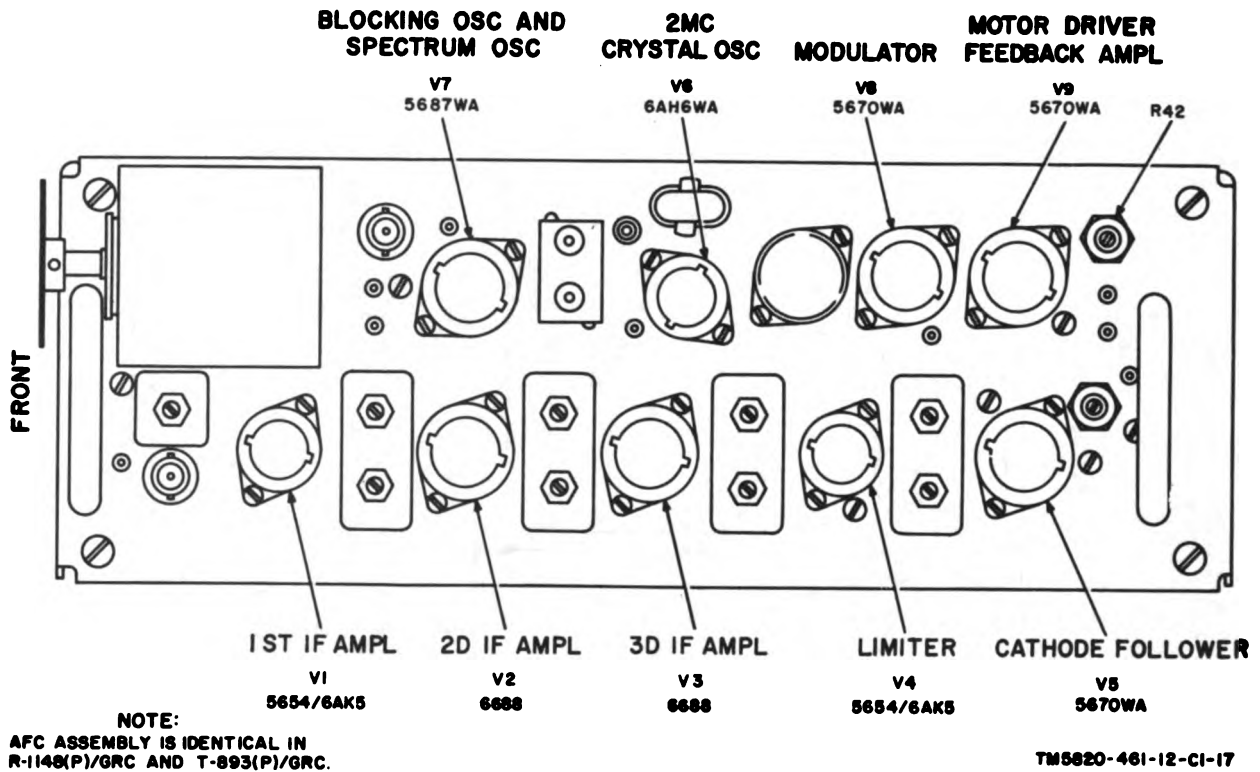

Figure 5-5. Afo assembly 2A4/3A4 (part of T-893(P)/GRC and R-1148(P)/GRC), tube locations.
d. R-1148(P)/GRC or R-1331()/GRC.* Loosen the screws that attach the R-1148(P)/GRC or R-1331(*)/GRC to the component case, and remove the component from the case. Loosen the screws that attach the access cover to the rear of the R-1148(P)/GRC or R-1331(*)/GRC, and remove the cover. The plug-in assembly locations in R-1148(P)/GRC or R-1331(*)/GRC are shown in figure 6-6. The location of tubes on the main frame of the R-1148(P)/GRC or R-1331(*)/GRC is shown in figure 5-10. The locations of tubes in plug-in assemblies are shown in figures 5-5, 5-7, and 5-9.